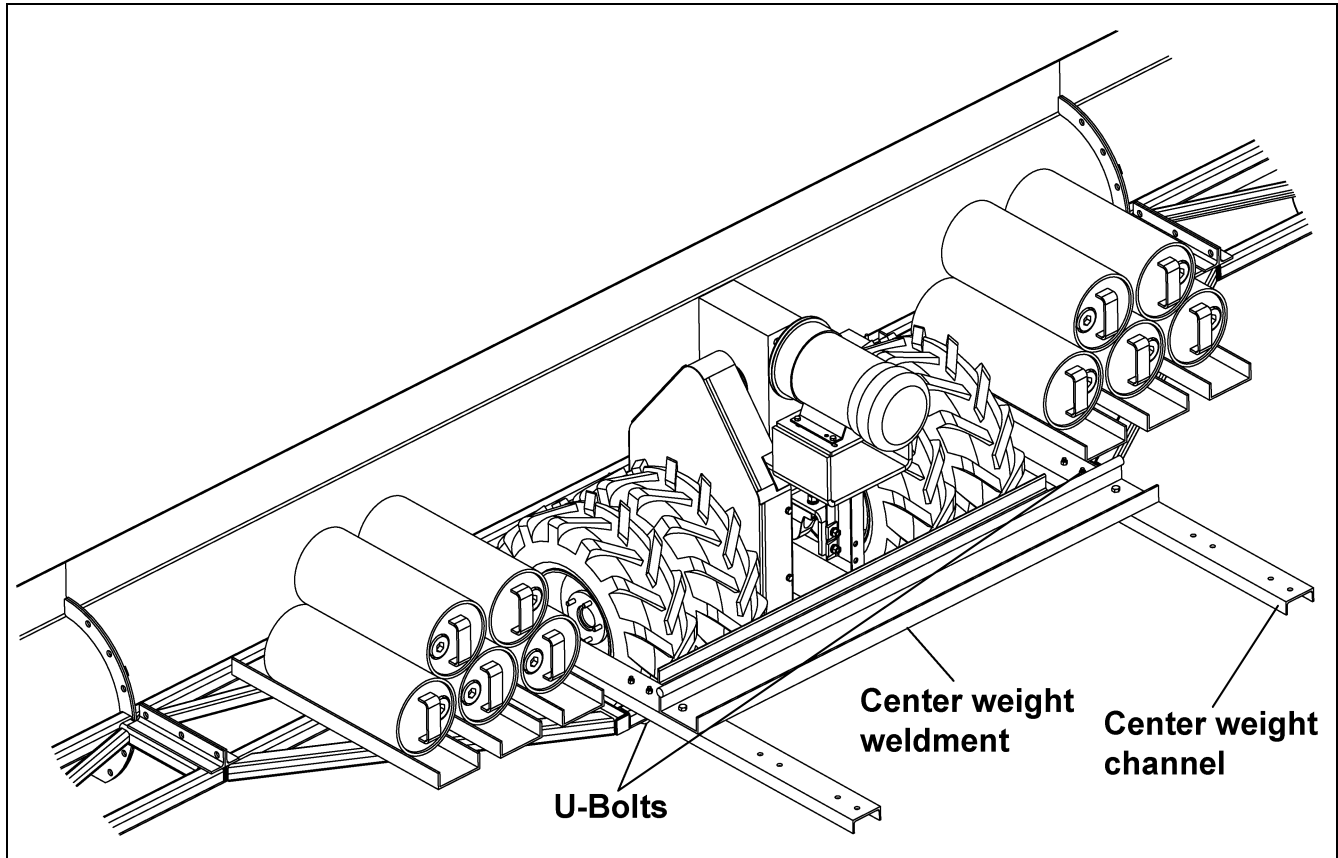

Figure 5T
- B. Attach the center weight weldments to the adjustable center weight channel using eight (8) 1/2" x 1-1/4" bolts, split lock washers and hex nuts. The adjustable center weight has three (3) sets of holes for the center weight weldments to adjust the weights. (See Figure 5T.)